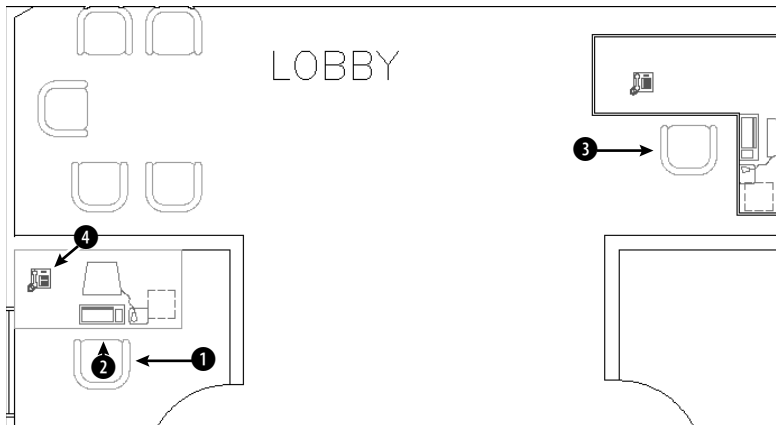

**Figure 18-38:** An office building plan layout.
2. Save the file as `ab18-10.dwg` in your AutoCAD Bible folder. This is a portion of an office building plan layout, as shown in Figure 18-38.
- **If you have AutoCAD:** At the Select a block: prompt, pick the chair at ❶ in Figure 18-38. In the Value text box of the Enhanced Attribute Editor, change the date purchased to 4/97.
- **If you have AutoCAD LT:** At the Select block reference: prompt, pick the chair at ❶ in Figure 18-38. In the Edit Attributes dialog box, change the date purchased to 4/97.
6. Choose Explode from the Modify toolbar and select the chair at ❶ in Figure 18-38. Press Enter to end selection. The attributes reappear, but without their values. Choose Draw ⇨ Block ⇨ Define Attributes. Create an invisible attribute with a tag and prompt of Color, and a value of Dusty Blue. Click OK and pick an insertion point underneath the other two attributes of the armchair. (You'll need to pan down a little. Exact placement is not important.)
8. Choose Insert Block. In the Insert dialog box, choose `armchair` from the Name drop-down list. With Specify On-screen checked only for Insertion Point, click OK. Insert the chair at ❷. In the Enter Attributes dialog box, click OK to accept the values, or press Enter to accept the values on the command line.
9. **AutoCAD only:** To verify that your drawing has redefined the block elsewhere, choose Modify ⇨ Object ⇨ Attribute ⇨ Single. Select the block at ❸. Notice that the Color tag has been added with a value of Dusty Blue. Click OK to accept the values. (In AutoCAD LT, the new attribute appears only in the block that you redefined, and new blocks that you insert.)
10. Use Zoom Window to zoom in closely to the telephone at ❹ in Figure 18-38. The telephone has a visible attribute of the phone number. The number is so small that it cannot usually be seen, and so does not interfere with the drawing.